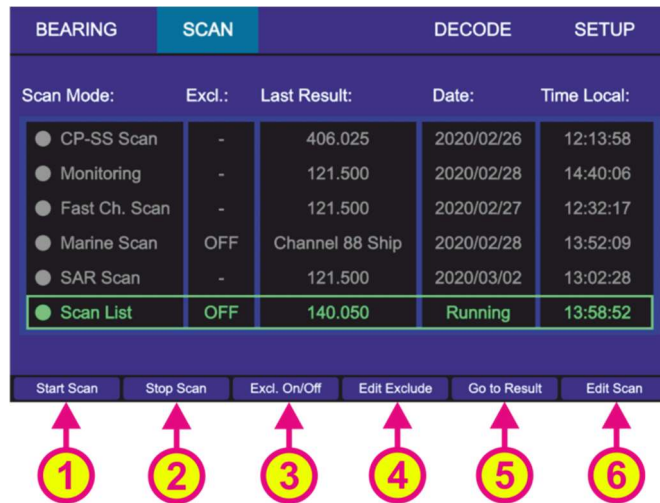
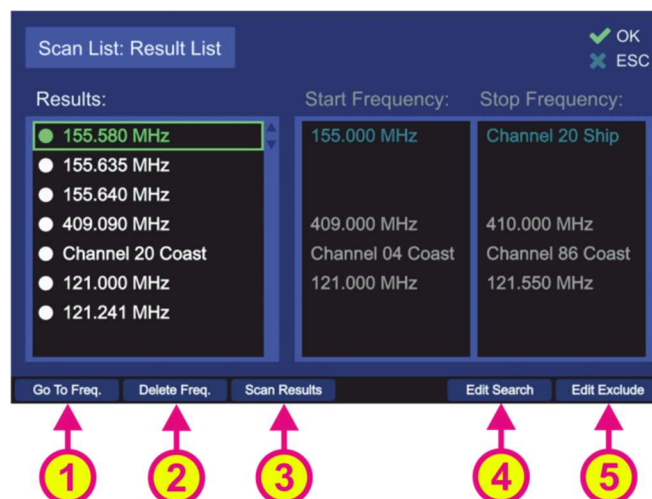

Figure 60. "Scan List" is activated.
Figure 61. Result List Settings
- To start the “Scan List” mode select the corresponding line on the “Scan” page and press “OK” or the hotkey “Start Scan” (s. Figure 60, position 1).
- Pressing the hotkey “Stop Scan” (s. Figure 60, position 2) will terminate the scan mode and change to the bearing of the frequency, that was set before the scan mode has been activated.
- The hotkey “Excl. On/Off” is only visible if “Marine scan” or “Scan List” is marked (s. Figure 60, position 3).
- “Edit Exclude” is only visible, if “Marine scan” or “Scan List” is marked (s. Figure 60, position 4).
- Pressing the hotkey “Go to Result” (s. Figure 60, position 5) during the scan list mode is currently running, will interrupt the scan mode, and open the “Result List”, where you can select the next action (s. Figure 61). This hotkey appears only if there is a result for this scan.
- Pressing the hotkey “Go to Freq.” (s. Figure 61, position 1) adopts the currently marked frequency as main bearing frequency and switches to the normal bearing mode on the “Bearing” page.
- Pressing the hotkey “Delete Freq.” (s. Figure 61, position 2) deletes the currently marked frequency from “Result List”. The deleted frequency will not be skipped anymore, when the results are scanned after pressing “Scan Results”.
- Pressing “Scan Results” (s. Figure 61, position 3) starts the scan list mode, which runs only around the frequencies which had a result during the last scan (frequency span around 100 kHz).
- Pressing “Edit Search” (s. Figure 61, position 4) will open the “Search List” dialog (s. “Edit Scan” below).
- Pressing “Edit Exclude” (s. Figure 61, position 5) will open the “Exclude List” dialog (s. 7.2.4.3).
- Pressing the hotkey “Edit Scan” (s. Figure 60, position 6) will open the dialog for changing the settings of the “Search List” (s. Figure 62).